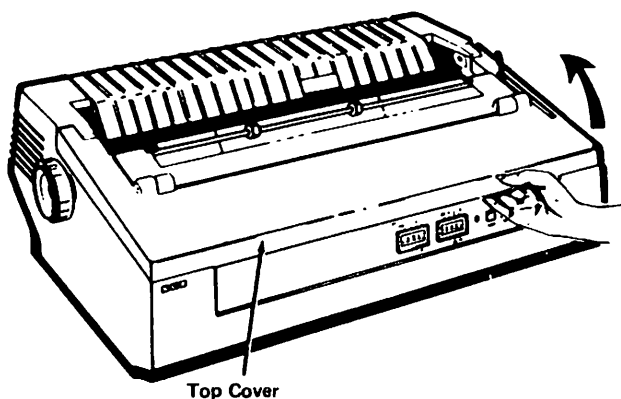

Figure 34 Raising the top cover
1. Raise the top cover (Figure 34).